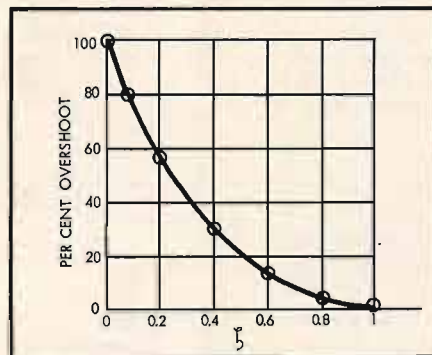

Fig. 4. Plot of overshoot vs. ζ (From "Automatic Feedback Control System Synthesis," J. Truxal, p. 39.)
Pilots and controls are mounted on the front chassis apron, as in Fig. 4. These can be rearranged to suit conditions and personal preferences except that the leads to the disabling switch, in the plate circuit of V_{2a} should be short and not too close to the input, or unwanted positive feedback may result.
Fig. 4. Pilots and controls on front chassis apron. Components, from left to right, are: power pilot, power switch, disabling switch, mode switch, and output pilot.
If we plot per cent overshoot to a square-wave input against ζ , we get the curve shown in Fig. 4, and if we plot the frequency response for various values of ζ , we get the curves of Fig. 5. With the quadratic responses of equations (6) and (10), it is possible to make any desired compromise between overshoot and performance near the cutoff frequency. The writer has chosen a ζ of 0.55, which